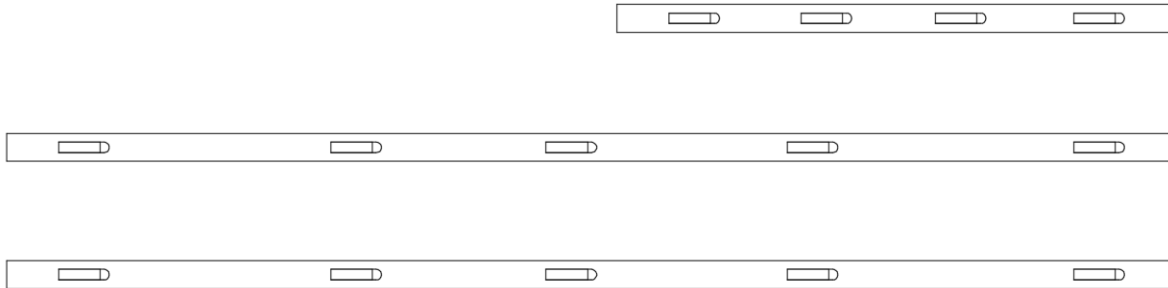

Figure 2
Remove adhesive backer from one side of the loop lock pair and place (5) strips on each Vertical Metallic Adapter and (4) strips on the Horizontal Adapter. Figure 2